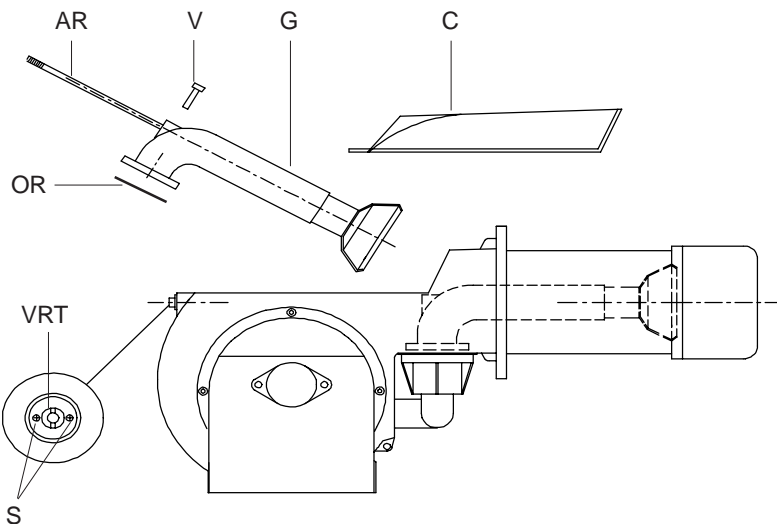

Fig. 26
- removal, examination and cleaning of the combustion head (see fig. 26 - 27);